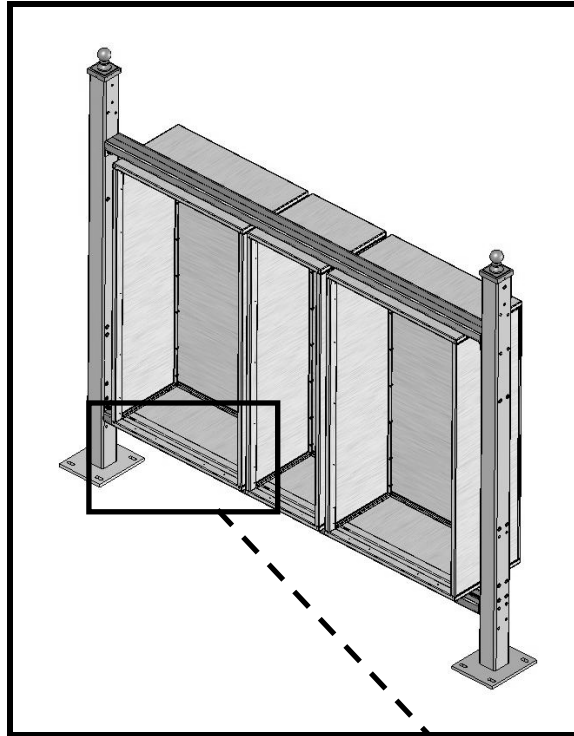

Figure 25 – Install mailbox casing
- d) Secure bottom of casing to lower horizontal beam using (2) 48197 bolts and (2) 48175 washers. Thread 48197 bolt into 48187 square nut. *See Figures 25 and 26.*